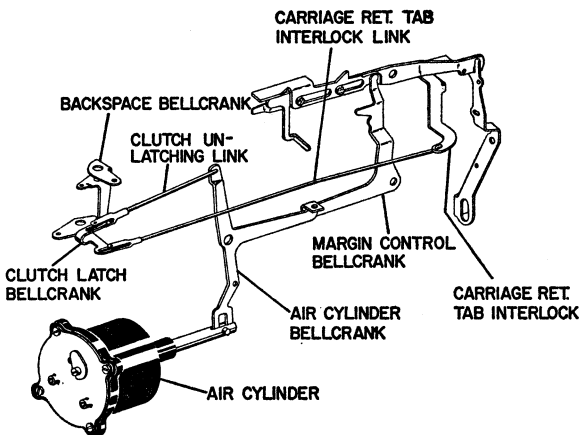
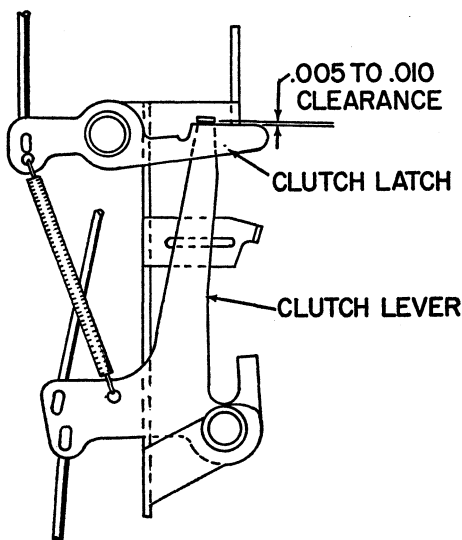

Figure 14. Clutch Unlatching
Figure 15. Carriage Return-Tab Interlock Adjustment
The carriage return mechanism has been modified to be compatible with the decimal tab mechanism (Figure 14). Instead of the decelerator and centrifugal governor, an air cylinder is used to cushion the shock of the carriage return. Clutch unlatching motion is transferred from the margin control bellcrank to the air cylinder bellcrank to which the clutch unlatching link is attached. A carriage return tab interlock has been designed which is operated by the left end of the tab lever to unlatch the clutch. A carriage return-backspace interlock is incorporated with the backspace bellcrank. This extension of the backspace bellcrank operates the clutch latch bellcrank to unlatch the clutch during backspace.
1. **CLUTCH UNLATCHING LINK (Figure 14).** Adjust the clutch unlatching link so that the clutch will be unlatched when the margin control lever is $\frac{1}{64}$ " from its extreme right position.
2. **CARRIAGE RETURN-TAB INTERLOCK LINK (Figure 14).** Adjust the link so that, with the tab lever latched out, there will be .005" to .010" clearance between the clutch latch and the lug on the clutch lever. Check by pushing the clutch lever toward the latching position (Figure 15). Be sure the clutch latch is not restricted when the tab lever is at rest.